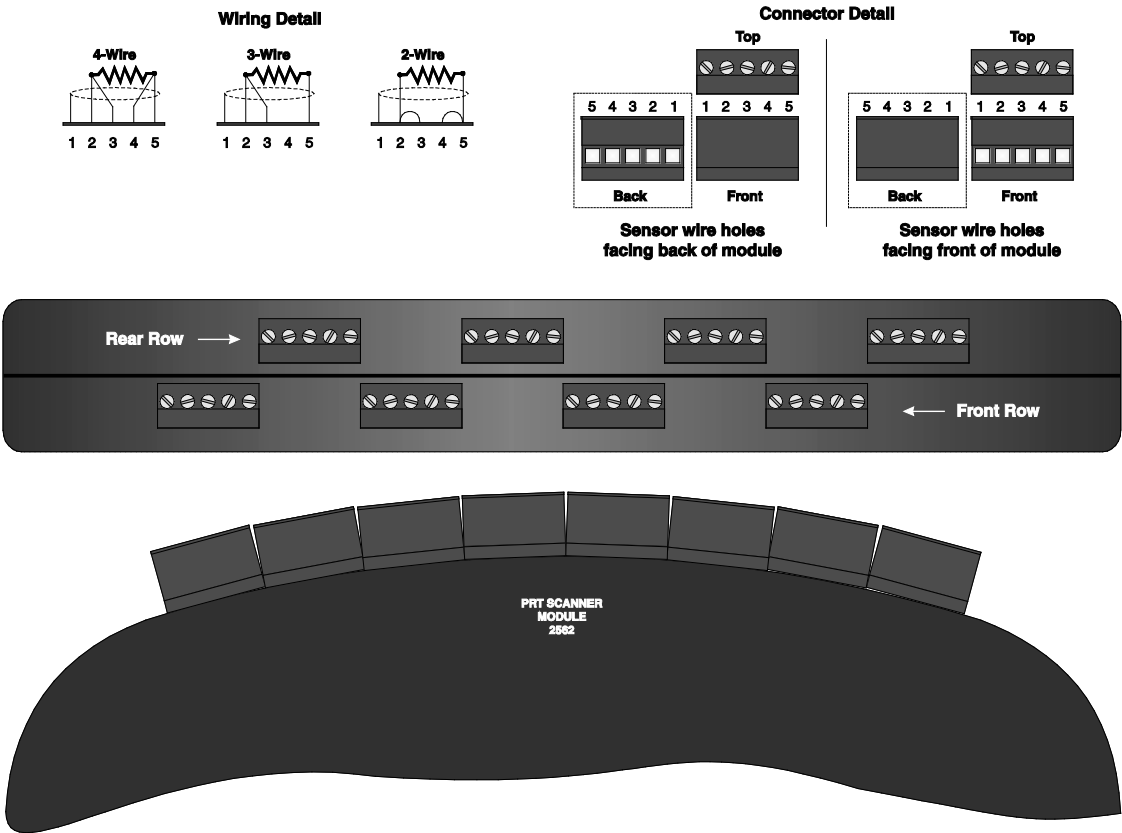

Figure 15. PRT Scanner Module Sensor Wiring Detail
Four-wire sensors are connected as shown in Figure 15. The shield, if used, is connected to pin 1 on the left. One pair of wires connects to pins 2 and 3. The opposite pair of wires connects to pins 4 and 5. Pins 2 and 5 source current and pins 3 and 4 sense potential. When using four-wire sensors be sure to check that the wiring configuration for that row is set to 4 as explained above!
*There are two types of sensor connectors. One has the wire holes facing the front of the module and one has the wire holes facing the back of the module as shown in the connector details in Figure 15.*
Three-wire sensors are connected as shown in Figure 15. The shield, if used, is connected to pin 1 on the left. One pair of wires connects to pins 2 and 3 from the left. The opposite wire connects to pin 5. Pin 4 is left unconnected. Pins 2 and 5 source current. The potential is also sensed at pins 2 and 5 while the potential at pin 3 is used to compensate for the lead resistances of wires 2 and 5. Be sure to check that the wiring configuration for that row is set to 3 as explained previously! When using three-wire sensors the accuracy is reduced as shown in the specifications. Also, be aware that any difference between the resistances of the lead wires directly affects accuracy.
Two-wire sensors are connected as shown in Figure 15. The shield, if used, is connected to pin 1 on the left. One wire connects to both pins 2 and 3 from the left. The opposite wire connects to both pins 4 and 5. Be sure to check that the wiring configuration for that row is set to 4 as explained above! When using two-wire sensors the 2562/2568 is unable to compensate for lead resistance.